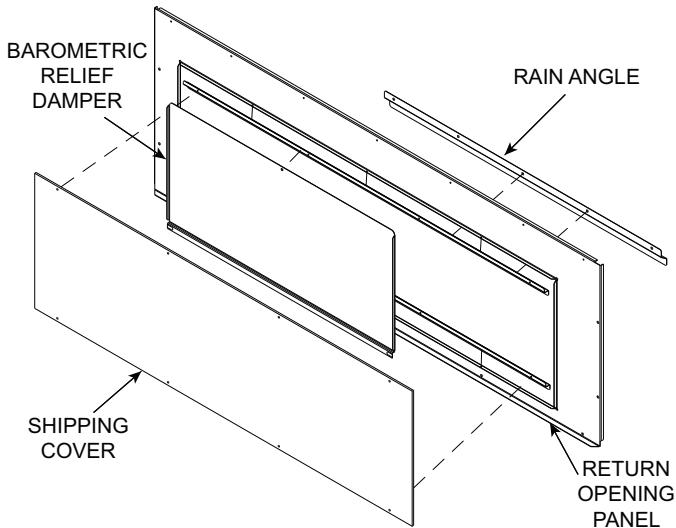

**Fig. 37 — CRBARDHOD001A00 Hood Sides and Top**
5. Using the provided hardware, screw the CRBARDHOD001A00 hood sides and top together (see Fig. 37).